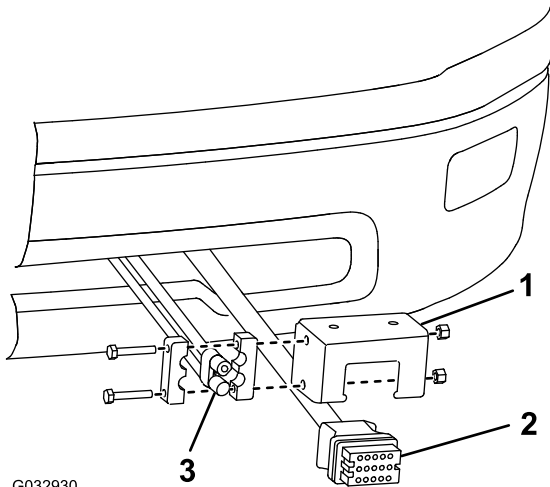

Figure 20
- 27. Mount the truck-side, wire harness plow connector to the lower part of the bumper using the control harness mounting bracket (Figure 20).
28. Mount the black and red power/ground connector to the control harness mounting bracket (Figure 20).